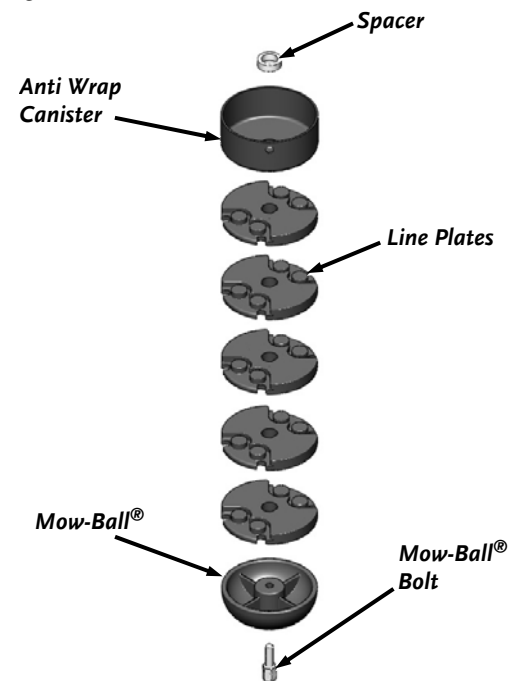

Figure 31
Improper installation can cause damage to the trimmer bearings. Follow these directions carefully to protect your machine from damage. Reassemble the components in the order shown in **figure 31**.
7. Place the Spacer and Anti Wrap Canister (with the lip facing up) onto the Shaft (**Figure 31**).